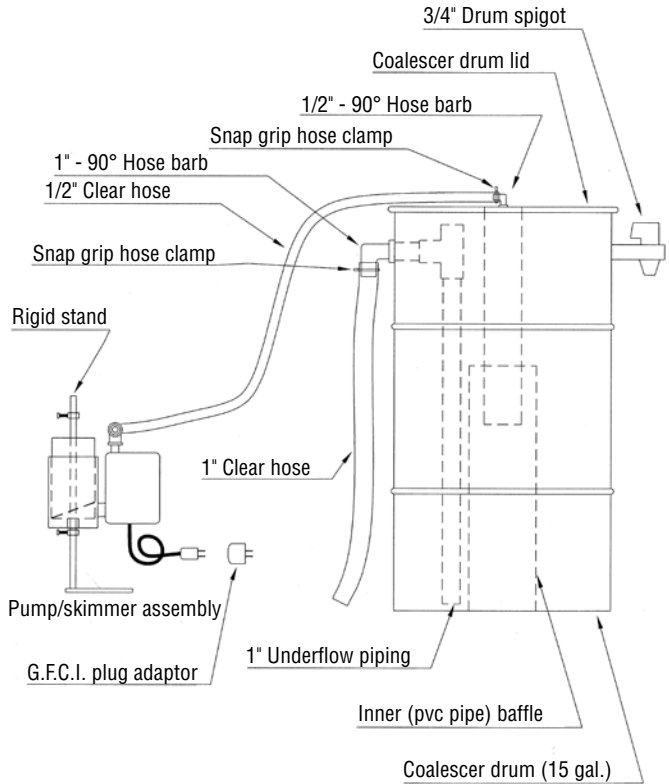

FIGURE 1
1. Connect one end of the 1/2" hose to the hose barb on top of the coalescer drum and attach the other end to the hose barb on the pump/skimmer assembly. Use the snap grip hose clamp (supplied) to make positive seal connections on both ends. (See Figure 1 for further clarification.) **DO NOT CUT THE HOSE SHORTER. IF THE HOSE IS CUT SHORTER, IT WILL INCREASE THE COOLANT FLOW THROUGH THE SKIMMER AND PUMP, WHICH WILL IN TURN NOT ALLOW THE SKIMMER TOP TO FLOAT PROPERLY.**